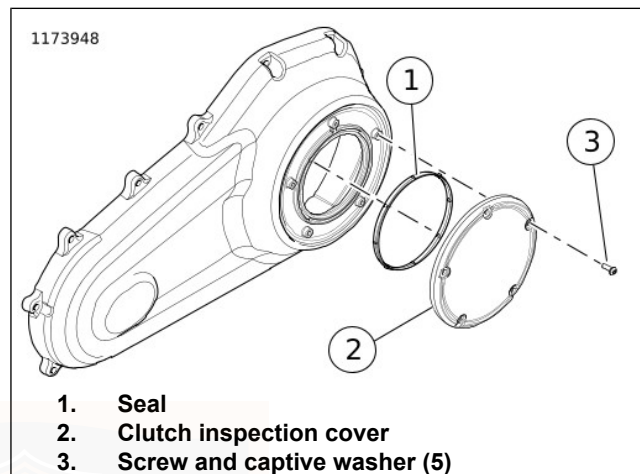
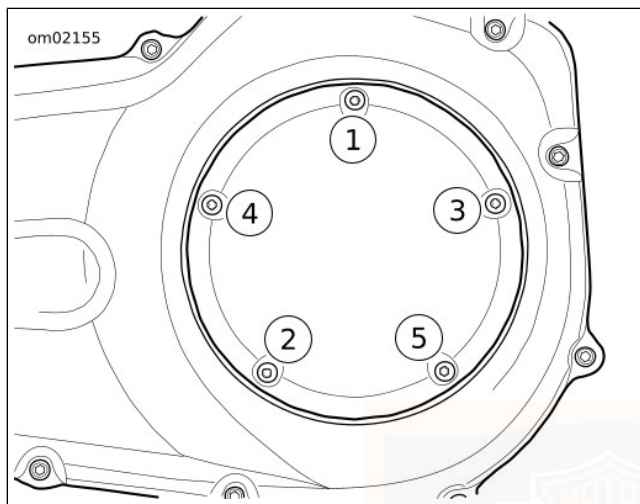

Figure 60. Clutch Cover (Typical)
Figure 61. Clutch Cover Tightening Sequence
6. See Figure 60. Remove screws (3) and clutch inspection cover (2).
7. Remove seal (1). Wipe oil from primary cover and groove in inspection cover.
- a. See Figure 60. Install **new** seal (1) in groove in cover.
- b. Secure clutch inspection cover with screws with captive washers (3).
- c. See Figure 61. Tighten in sequence shown.